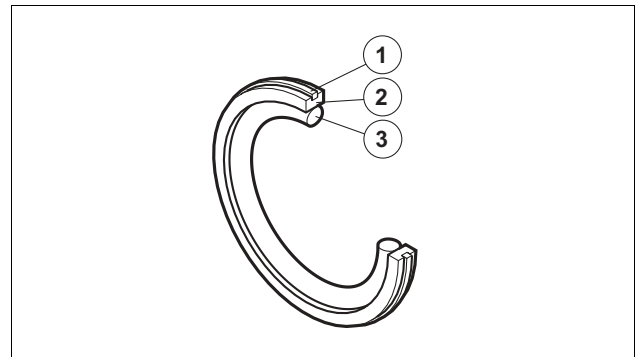

Fig. 36 Cylinder Seal Assembly
3. The piston seal is made of three parts. *See Fig. 36.* Separate all three parts.